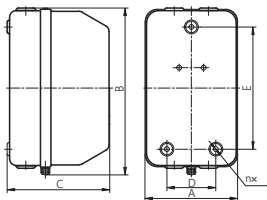
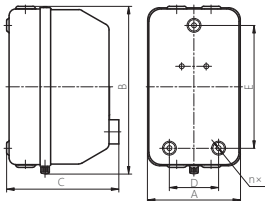
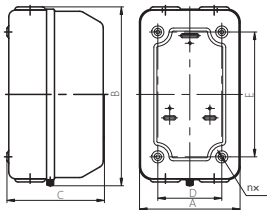
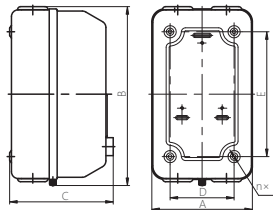

Figure 1 Outline and installation size of NQ2-15, 15N, 15NB
Figure 2 Outline and installation size of NQ2-15P
Figure 3 Outline and installation size of NQ2-33
Figure 4 Outline and installation size of NQ2-33P
1) See Fig. 1-Fig. 4 and Table 4 for the outline and installation size of the starter.
| Reference picture | See Fig. 1 | | | See Fig. 2 | See Fig. 3 | See Fig. 4 |